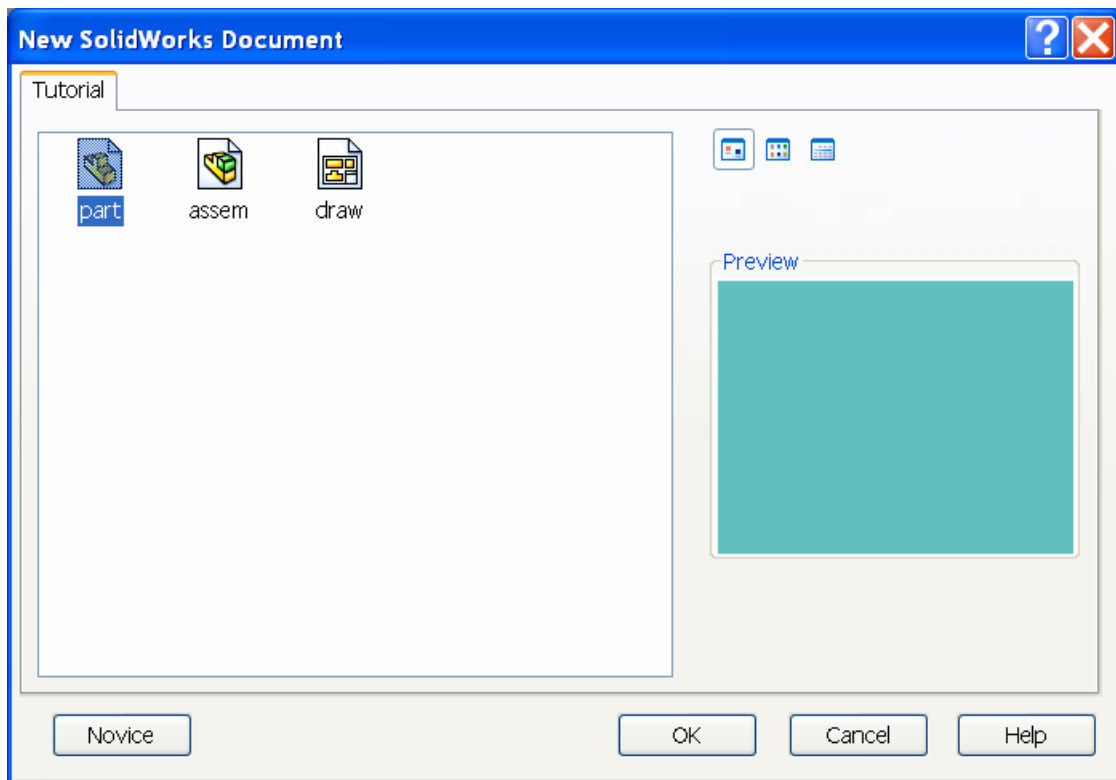

Figure 3 New SolidWorks document dialog box.
3. The Part button  is chosen by default. Choose the OK button from the New SolidWorks Document dialog box as shown in Figure 3. A new SolidWorks part document will be opened. But the part document window will not be maximized in the SolidWorks window.